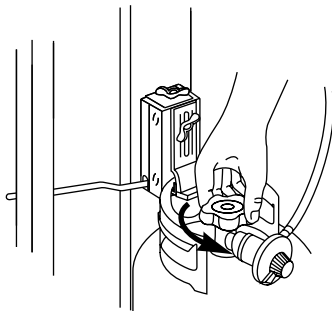

Figure 8
- e) Open the tank valve. Figure 8.